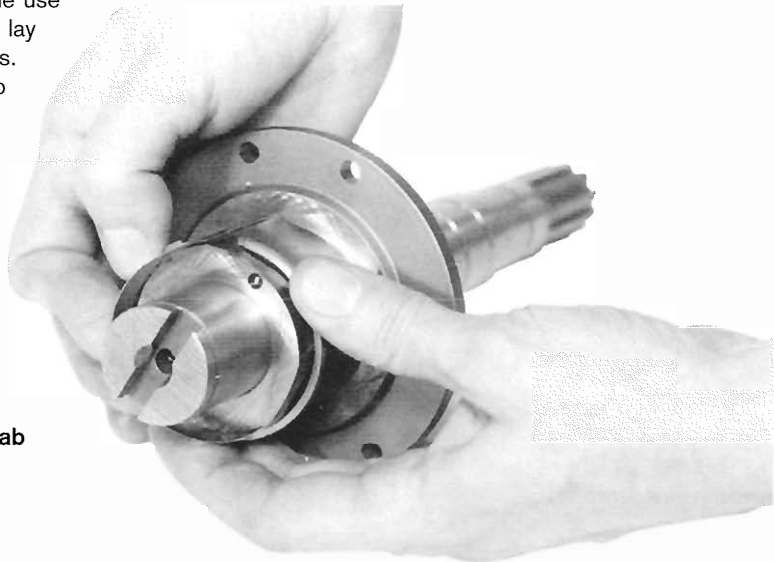

Fig. 16. Piston ring fitting procedure
5. Where a loading tool is not available use a thin metal strip, long enough to lay along the shaft above the grooves. Expand each ring just sufficiently to allow it to be placed in its approximate position over the strip. Gently withdraw the strip and locate the rings in their respective grooves (see Fig. 16).